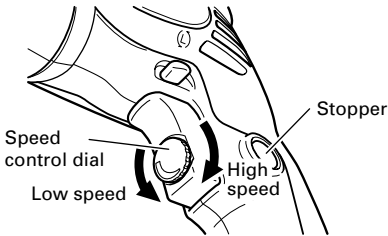

Fig. 6
- Turn the speed control dial clockwise for higher speed and counterclockwise for lower speed (Fig. 6).